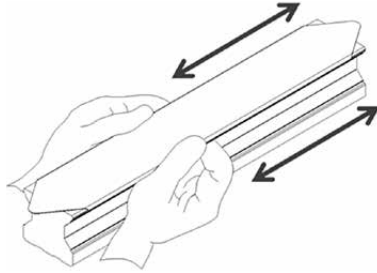

Fig. 4.19 Starting to mount the cover strip
- ▶ After centering, clip the cover strip onto the profile rail, starting from one side as shown in Fig. 4.19, over a length of approx. 15 cm.